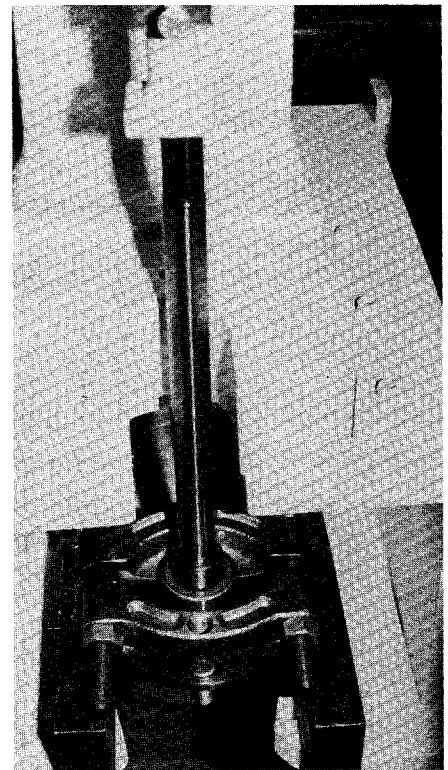

Figure 11-5
2. Press off the bearing (38) and collar (33) together (Figure 11-5).